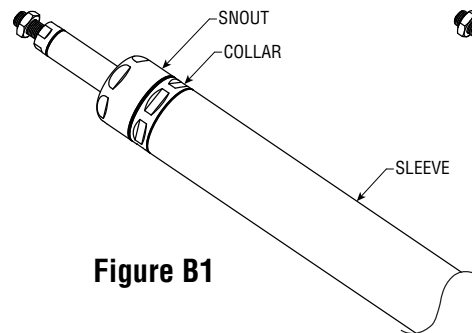

Figure B1
- a. While firmly holding the Collar by the flats, remove the Snout (see Figure B1).